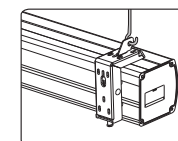

Figure 18
4. After completing steps 2 and 3, check to see whether the wall bracket is securely fixed onto the housing of the screen before hanging. Hang screen as shown below. (figure 18)